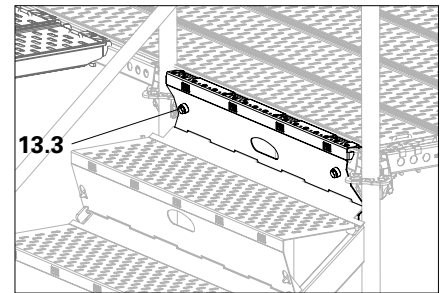
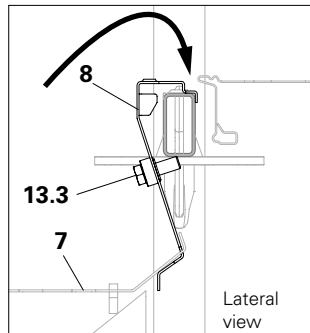

Fig. A2.11d
Fig. A2.11e
4. Swing the End Step UAE (13) back together with the last step until the End Step UAE (13) can be clipped into the horizontal ledger (5). (Fig. A2.11d + Fig. A2.11e)
Is the end step's lift lock (13.3) working? (Fig. A2.11e)